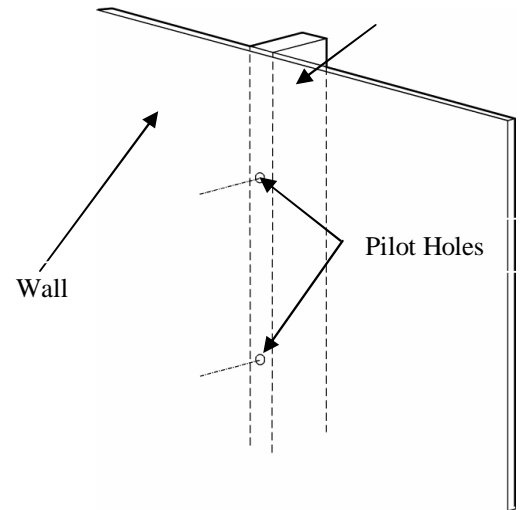

Figure 2. Single Stud Pilot Hole location
2. Identify appropriate mounting hole pattern. See figures 2 though 4 at right to determine appropriate mounting hole pattern for the framework identified.
NOTE: The MSR can be mounted using either a two, or four hole mounting pattern depending upon available framework. (see Figures 2 through 4)
3. Locate and mark locations of all mounting holes making certain that marks are on center of all studs. (see Figures 2 though 4)